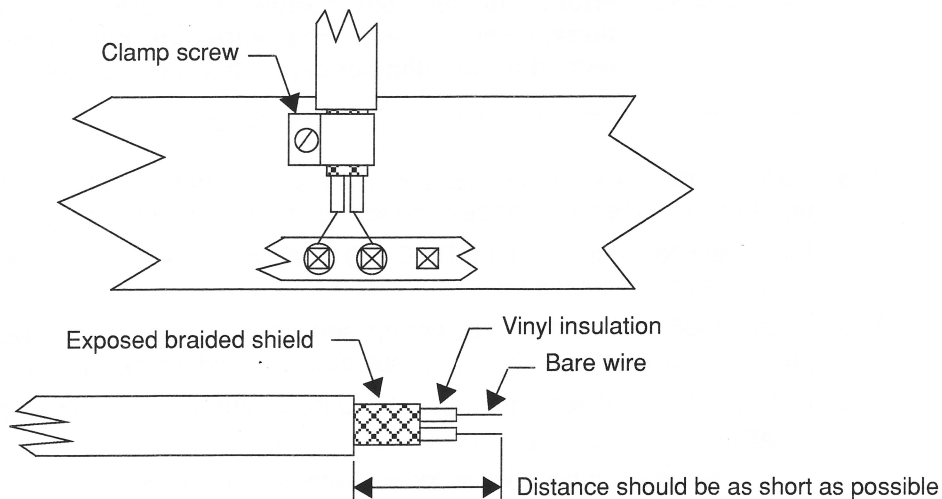

Figure 3-7 FCC Part 15, Subpart B, Class A Compliant D51 and HDSL Shield Termination Method
- 3.13 Figure 3-7 is an example of a wire-wrap connection. Strip outer insulation back to expose braided and individual insulated wires. The exposed shield braid goes under the wire clamp, as shown in the shielded cable diagram (refer to Figure 3-7).